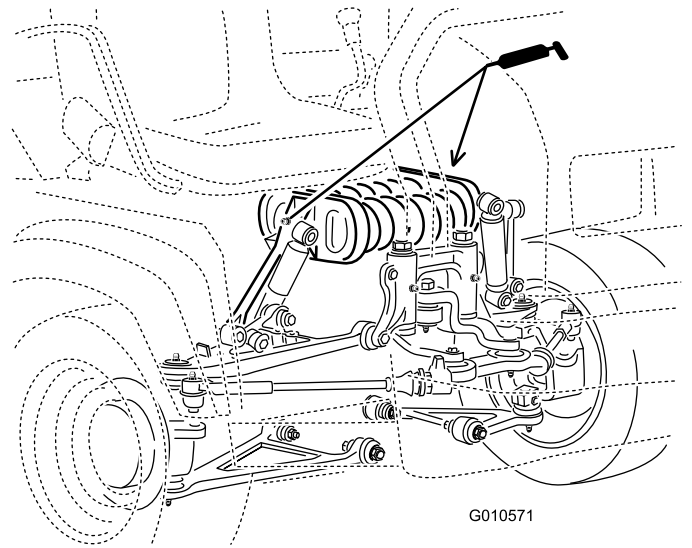

Figure 28
- **Spring tower (2);** refer to Figure 28